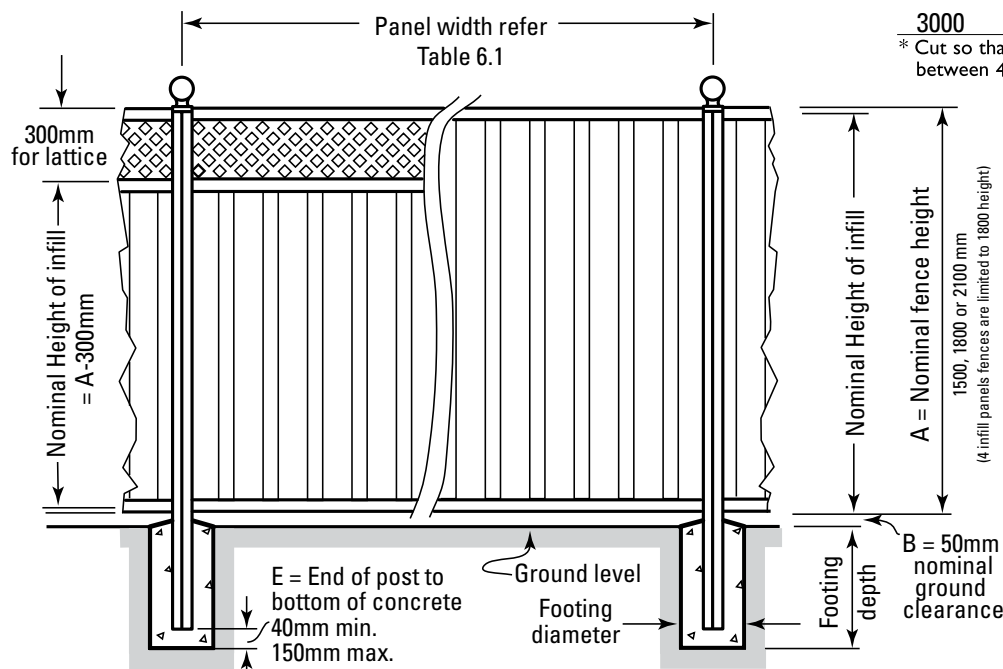

Figure 6.2
A = Nominal Fence Height (Figure 6.2)
B = 50mm ground clearance (Figure 6.2)
* Cut so that dimension E in Figure 6.2 is between 40 and 150 mm.